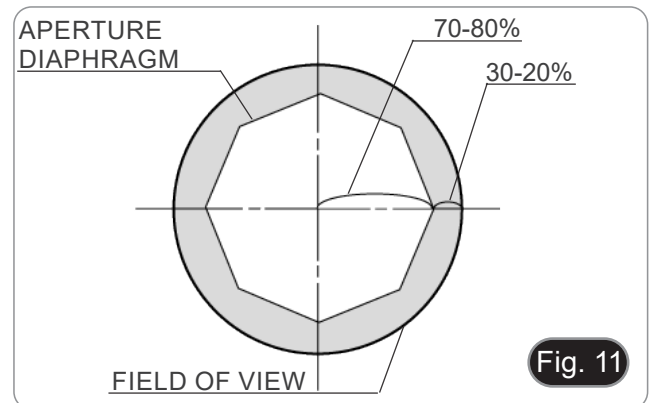

Fig. 11
- With low contrast specimens set the numerical aperture to about 70%-80% of the objective's N.A. If necessary, remove on eyepiece and, looking into empty sleeve, adjust the condenser's diaphragm in order to obtain an image like the one in Fig. 11.